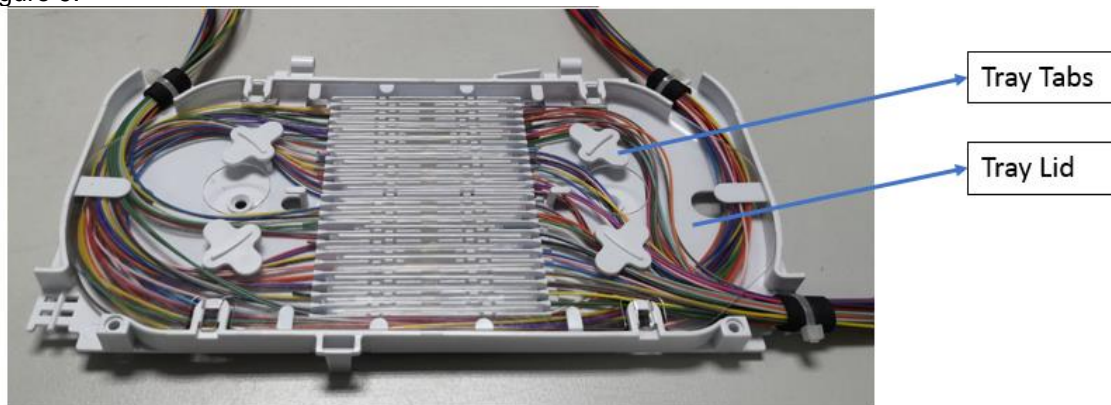

Figure 9
2. Install the four tabs and ensure no fibers are snagged, pinched in the tray, then install the cover as Figure 9.